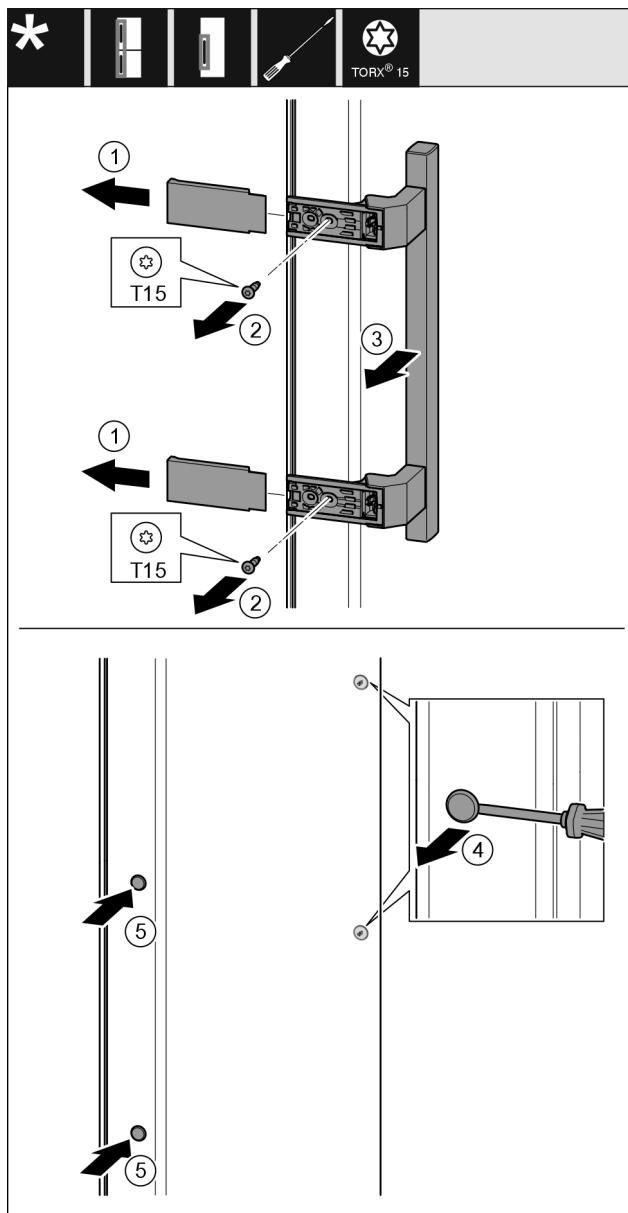

Fig. 19
- ▶ Pull off the cover Fig. 19 (1).
- ▶ Turn out the screws Fig. 19 (2) with the screw driver.
- ▶ Remove the handle Fig. 19 (3).
- ▶ Carefully lift the side plug Fig. 19 (4) with a slotted screwdriver and pull it out.
- ▶ Reinsert the plug Fig. 19 (5) on the other side.